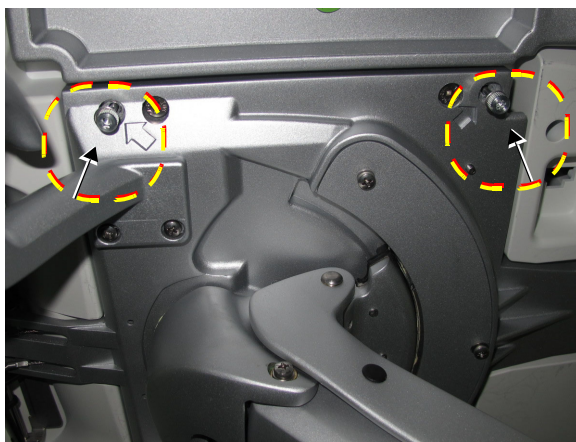

Figure 8-51 Loosening the Captive Hex Screws beneath Keyboard Assembly - Left Side
- 4) Loosen the two captive Hex screws on the *left* side, as shown in Figure 8-51 below (arrows marked in the figure indicate the screw locations).